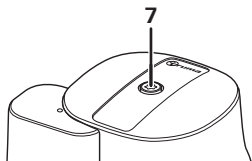
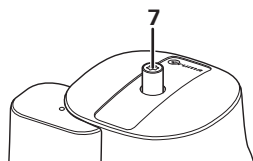

Figure 2a
Figure 2b
The crash sensor has a reset button, the position of which indicates its status: “Ready for operation” position (Figure 2a) or “not ready for operation” position (Figure 2b).
To reset, press the yellow reset button (7) firmly, turn it slightly clockwise, hold it for 5 seconds and ensure that it stays in the “ready for operation” position (Figure 2a).
- Press in the triggering element of the crash sensor (9) sufficiently far that the yellow reset button (7) comes out so that the crash sensor is in the “not ready for operation” position (figure 2b).
- Remove the screw cap (10) from the test connection and connect the test pump with test hose to the test connection.